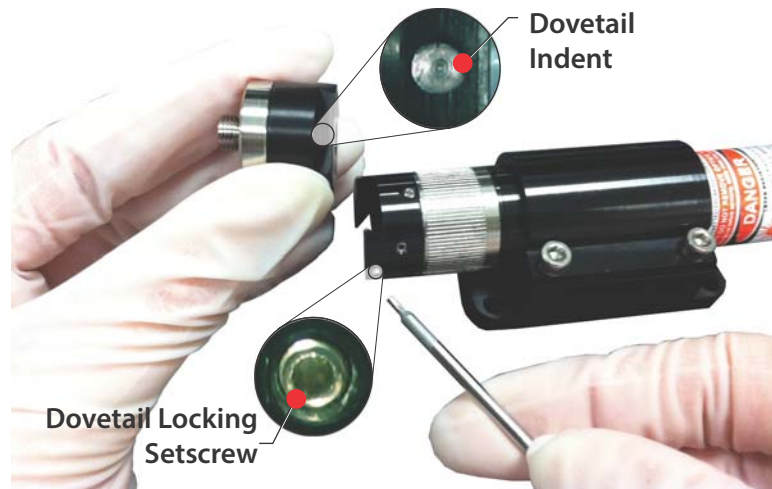

Figure 2-32. Align FR Dovetail Adapter
2. Using the 0.035-inch hex driver, install the FR dovetail assembly, as shown in Figure 2-32.